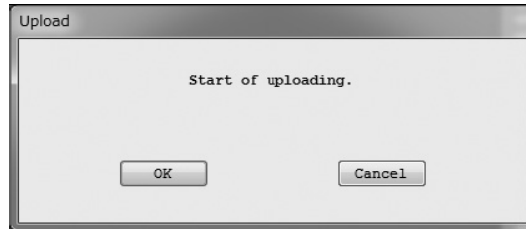
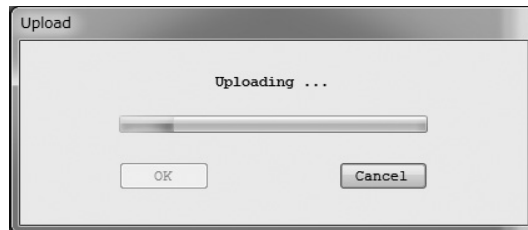

Fig.178
Fig.179
- ① Click on "File (F)" > "Print and save file (P)" in the menu.
- ② A message box (Fig. 178) appears. Click "OK" to continue, or click "Cancel" to stop.
- ③ By clicking "OK" on the message box (Fig. 178), uploading of every parameter will begin (Fig. 179). Click "Cancel" to stop uploading.